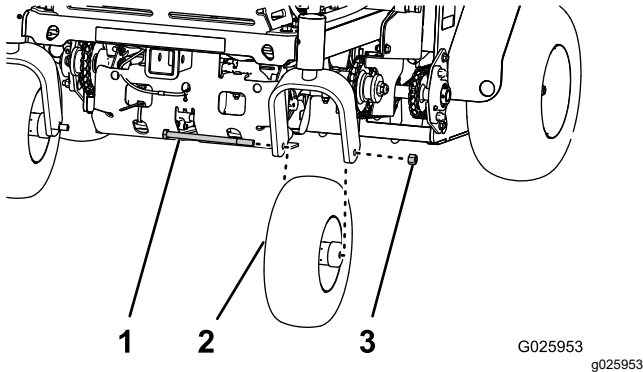

Figure 35
3. Remove the wheel nut and bolt, and remove the caster-wheel assembly from the fork (Figure 35).
1. Align the hole in the axle of the caster-wheel assembly between the holes in the fork of the caster (Figure 35).
2. Secure the wheel assembly to the fork with the wheel nut and bolt (Figure 35) that you removed in step 3 of Removing the Caster-Wheel Assembly (page 37).